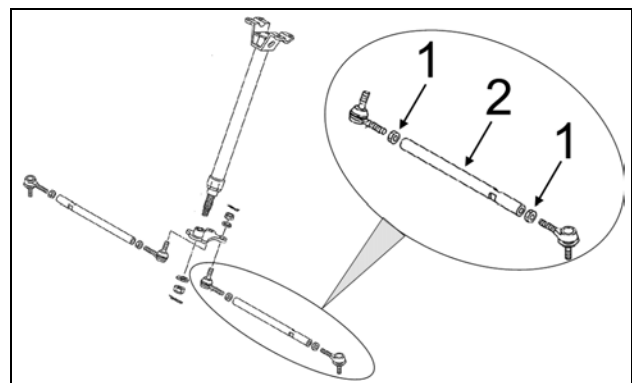

Figure 20
To adjust the ATV's steering system, first loosen coupling rod nuts (1), then screw or unscrew the coupling rod (2) an equal number of revolutions on both sides of the vehicle. Re-tighten nuts when adjustment is complete. See Figure 20.